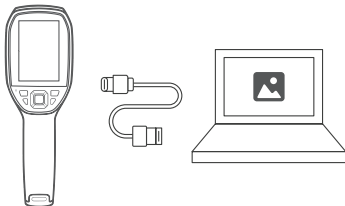

Figure 3.1.1
2. Connect TC005 to your computer with the supplied USB cable (see Figure 3.1.1).